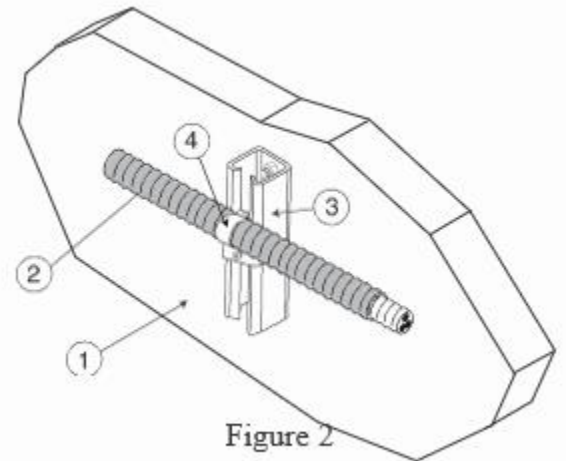

Figure 2
**B. Clamps** – For armored jacketed VITALink® cables, both vertical and horizontal installations, Kindorf®† J-800 series interlocking strap with Kindorf®† J-851 locking brackets shall be used (Figure 2). The inside diameter of each interlocking strap shall be sized to correspond with the outside diameter of the cable, to provide a secure mount with the strap of the clamp in complete contact with the outside of the cable.